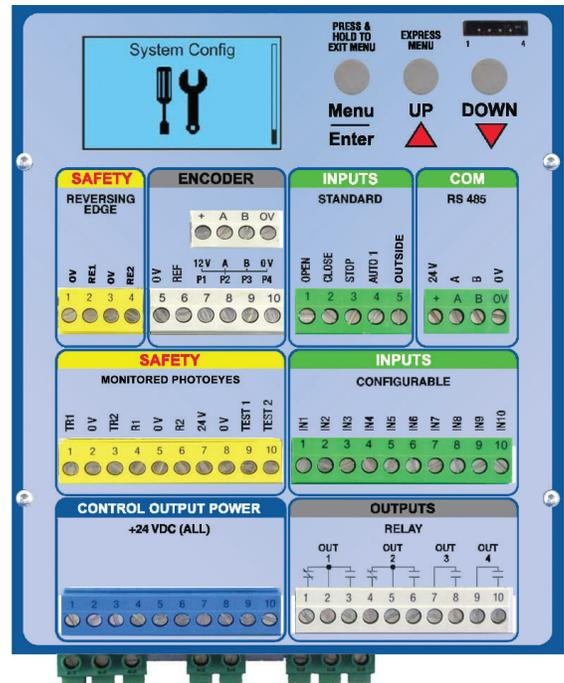

Figure 30: Controller Detail
- 1 On the controller, press “menu” (Figure 30)